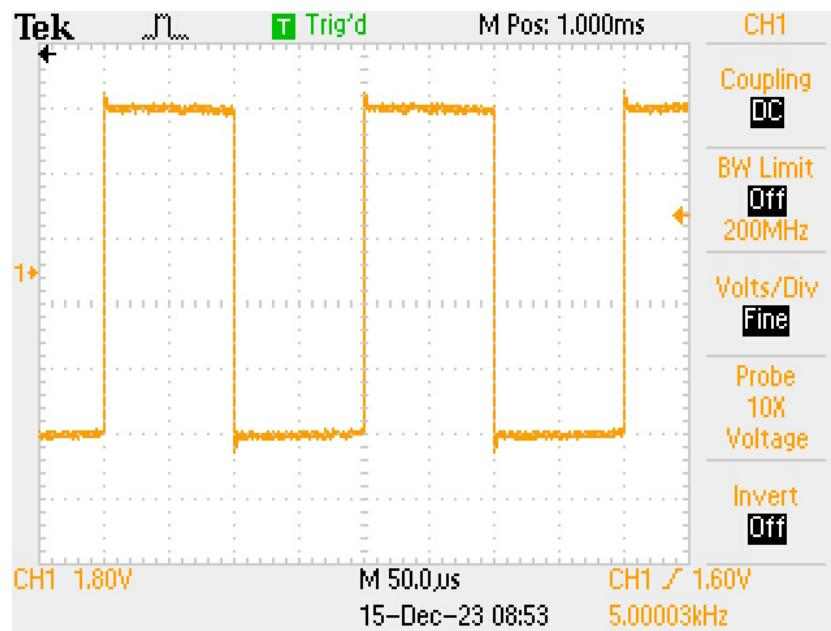

Figure 2.4: Rise Time Set-up Waveform
1. Increase the square-wave test signal frequency until the tilt is mostly gone, see Fig 2.4.
2. Use the **Fine** Volts/Div to adjust the signal to have exactly 5 major divisions peak to peak, see Fig 2.4.